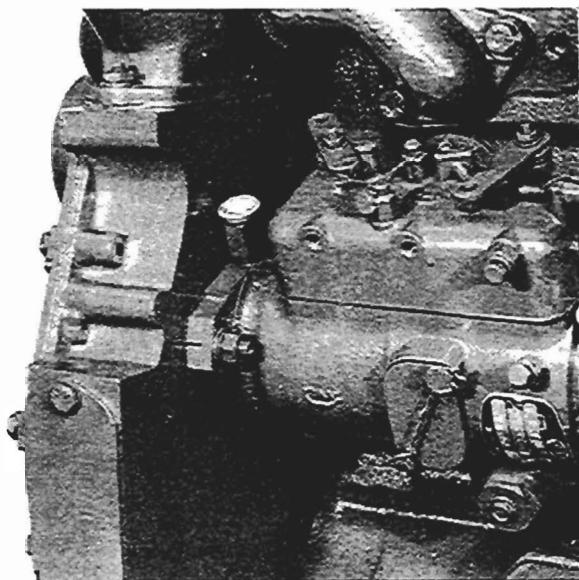

Fig. L2
A timing mark is stamped on the fuel injection pump flange and a further mark is stamped on the rear face of the timing case (see fig. L2). If these marks are in alignment and the fuel pump gear is in correct mesh, then the fuel pump timing is correct.
6. Ensure that fuel injection pump is fitted to engine with the timing mark on the flange in alignment with the timing mark on the rear of the timing case (see fig. L2).